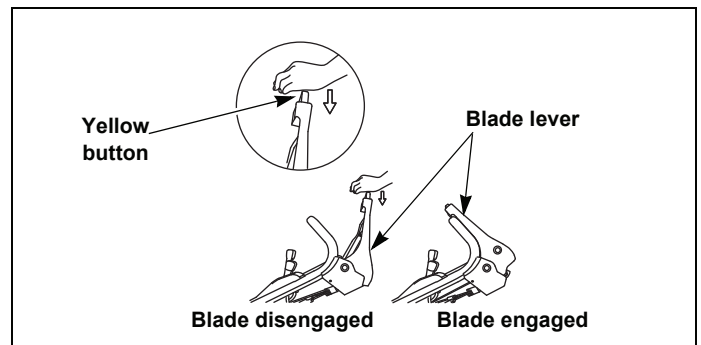

Fig. 4-26
4. Push the blade lever forward while pressing on the yellow button. This will engage the blade clutch. Make sure the lever is pushed forward until it touches the handle. Fig. 4-26